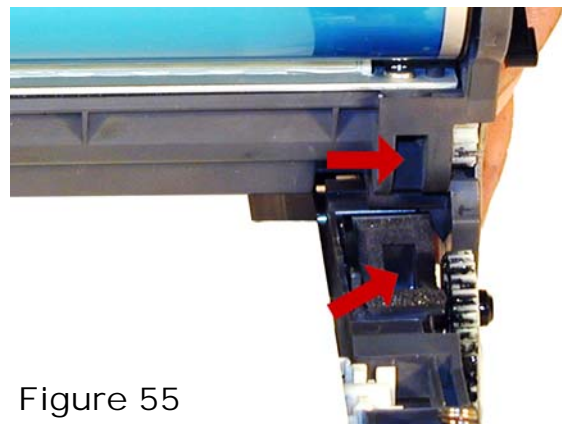

Figure 55
46) Set the drum unit on top of the transfer belt assembly so the waste auger aligns with the waste port. See **Figures 55 & 56**